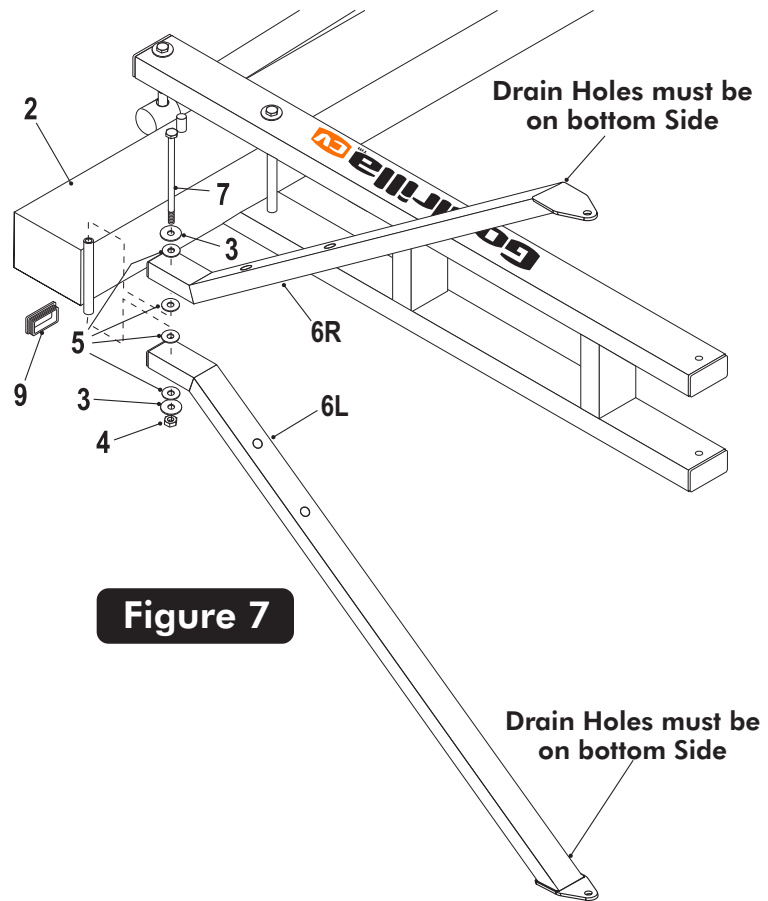

Figure 7
- Attach Upper Arms (#6L & 6R) to pole (#2), as shown in Figure 7. Using a bolt (#7), two flatwashers (#3), four plastic washers (#5) and locknut (#4).